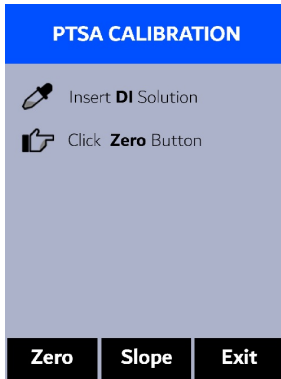

Figure 3.
4. Press **P-Cal** ( or ) to launch the **PTSA CALIBRATION** screen (Figure 3).